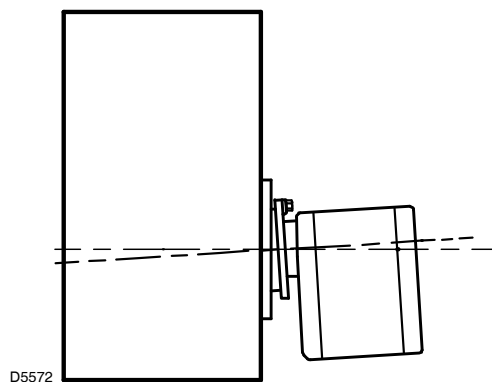

Fig. 8
- Verify that the installed burner is lightly leaned towards the button (Fig. 8).